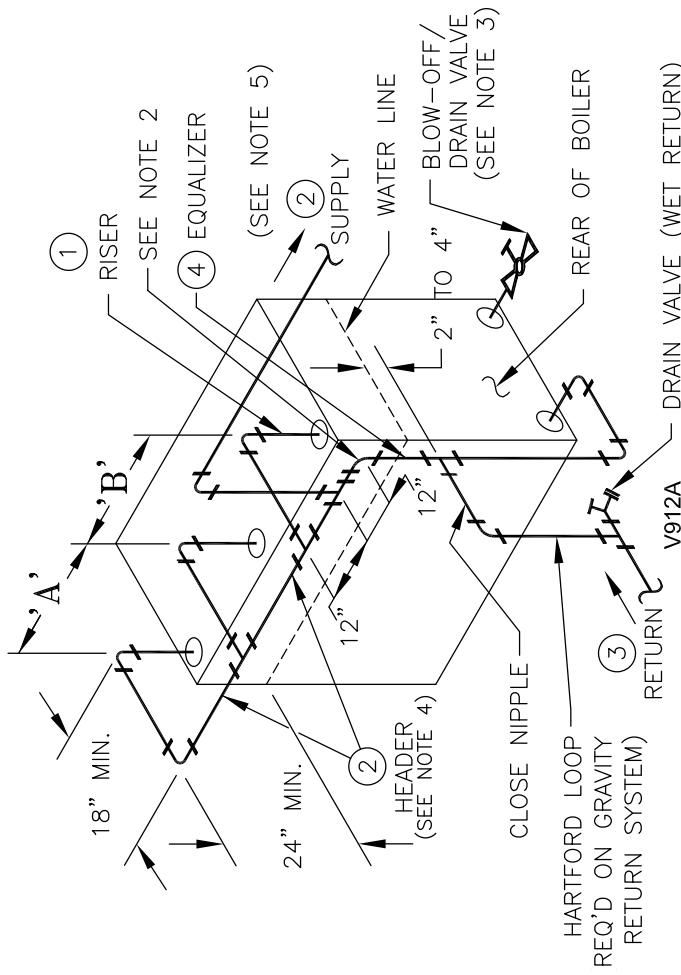
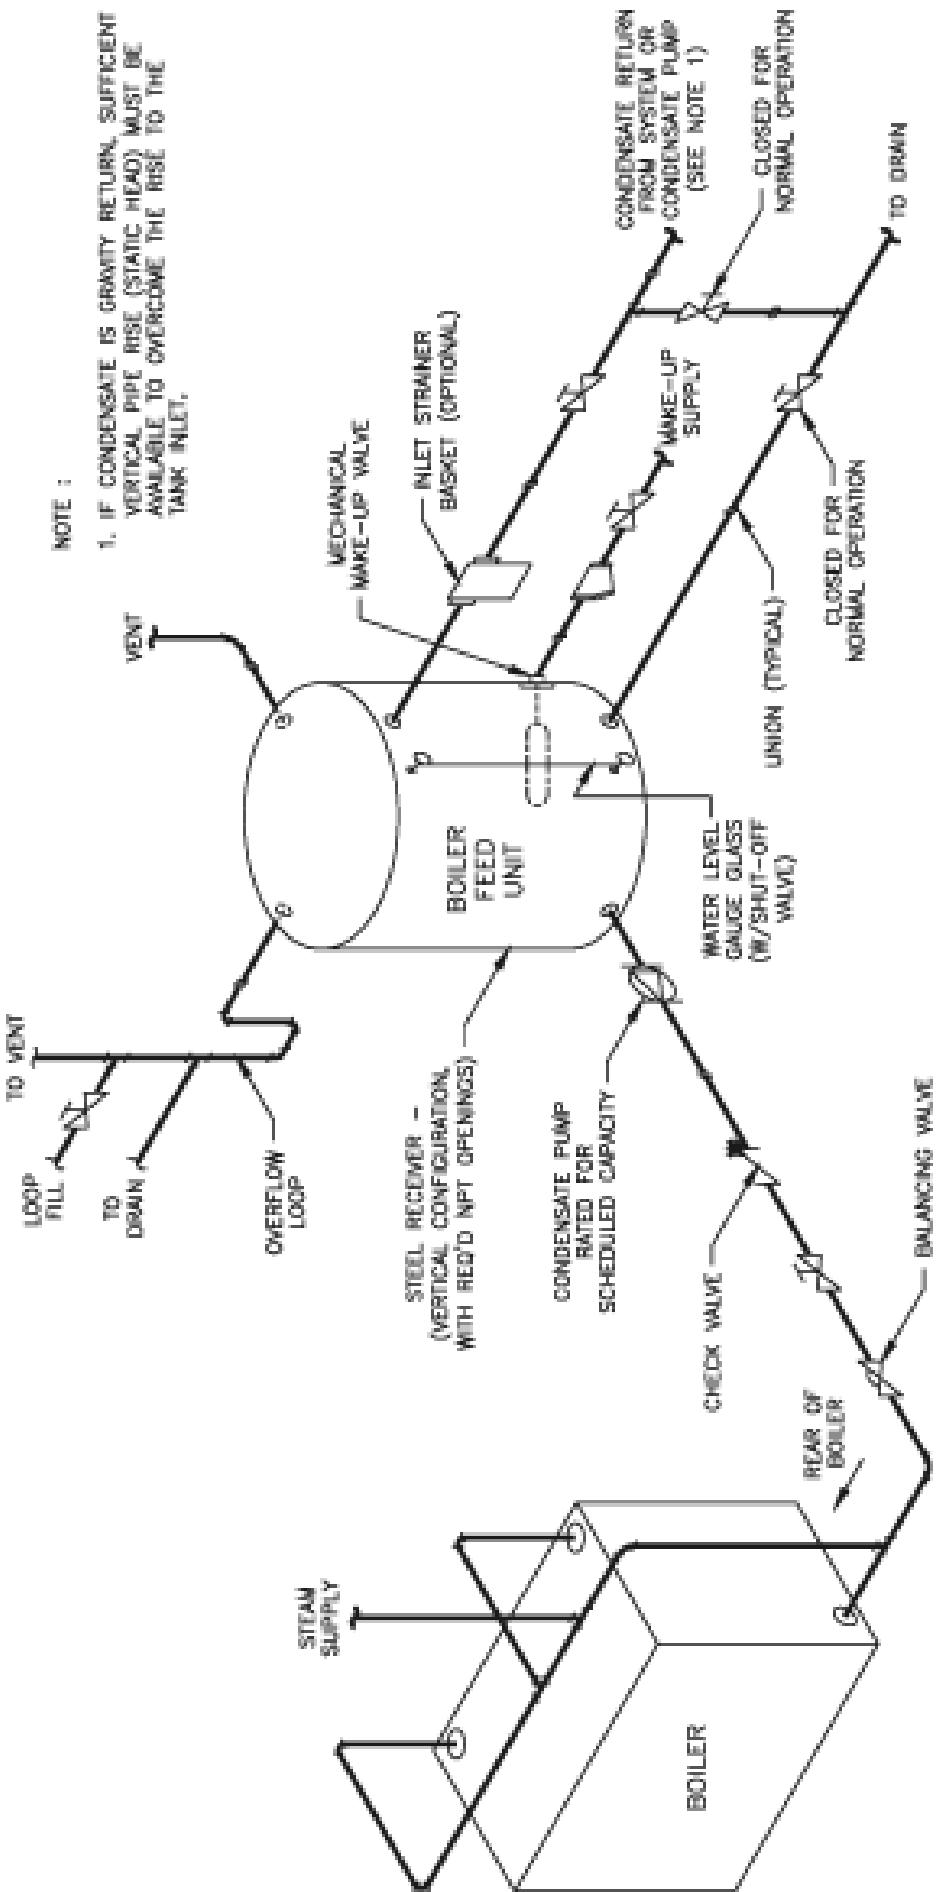

Figure 32: Minimum Piping Requirements For Gravity Return V9A Series Steam Boilers
Figure 33: Typical Steam Piping Arrangement for Boilers with Pumped Condensate Return and Boiler Feed Unit
2. STEAM HEATING - For piping details, see Figure 32. Figure 33 shows a typical pumped return/boiler feed unit arrangement. Figure 34 illustrates the required elevations for McDonnell and Miller 150 and 63 float low water cut-offs.